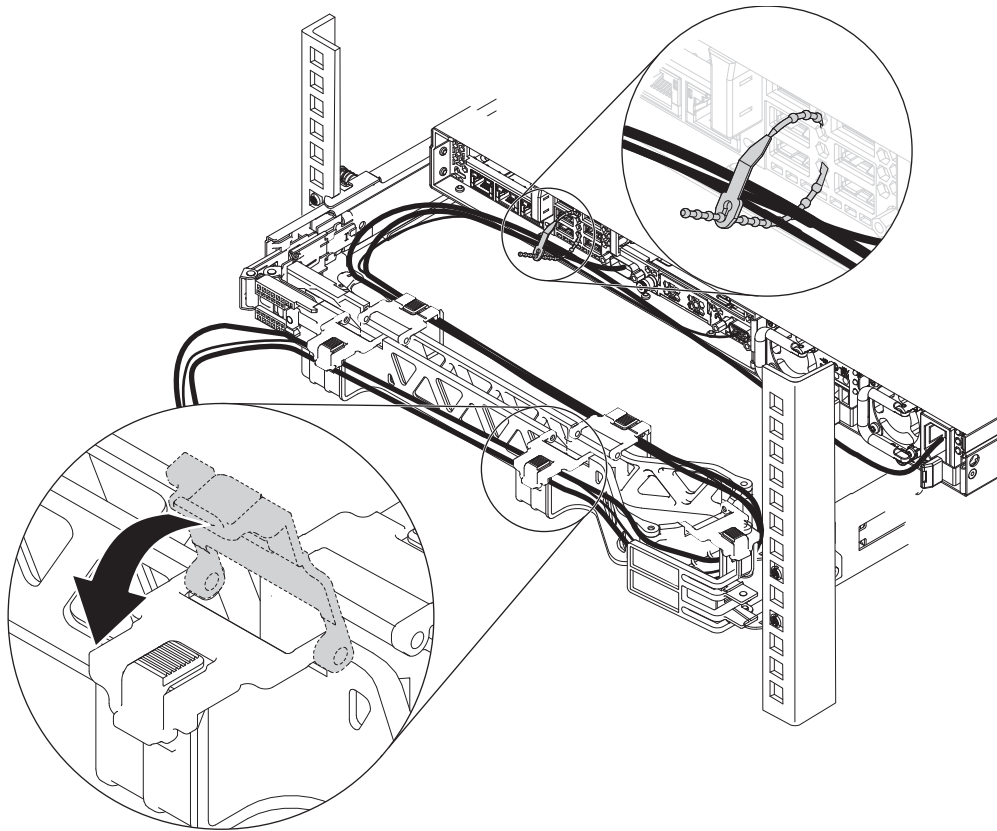

Figure 32. Connecting and routing the cables
6. Connect and route the cables, as shown in Figure 32 on page 43.